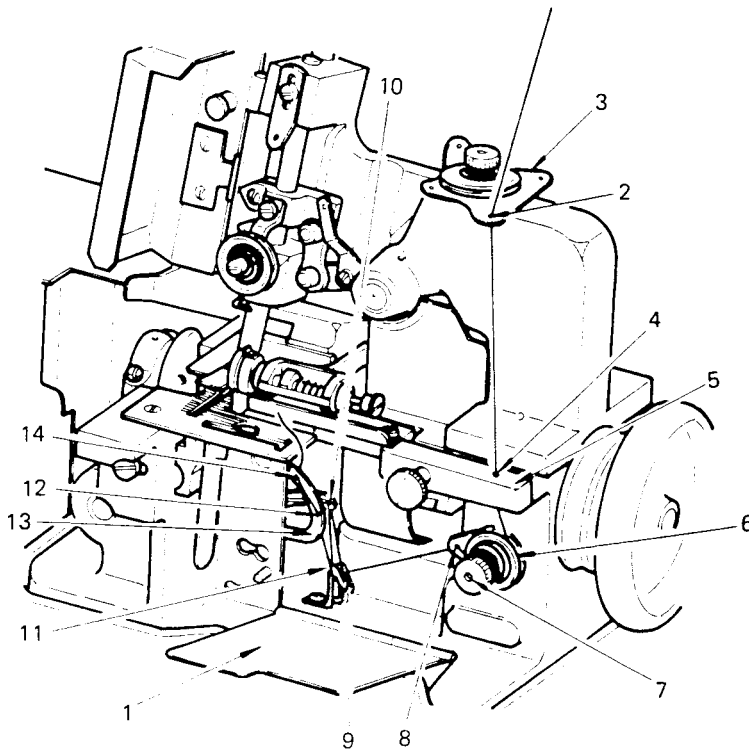

Fig. 10
11. TO THREAD THE RIGHT HAND LOOPER (See Fig. 10)